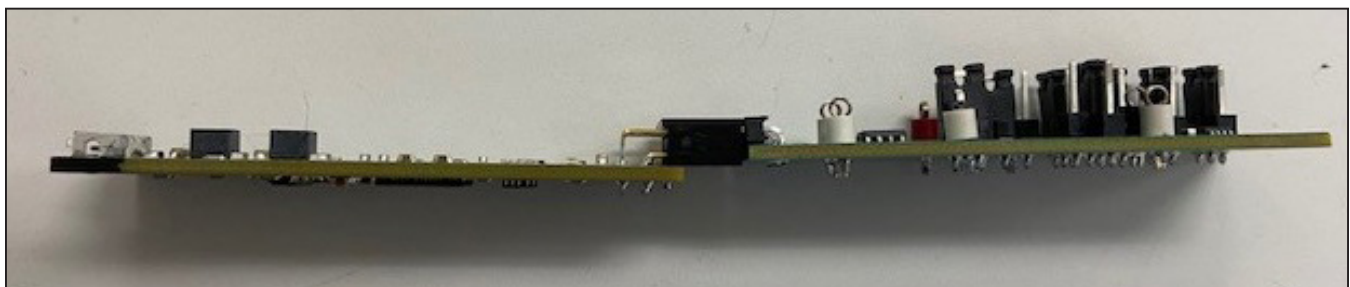

Figure 1. MAX31826 Side View
- 2) Align the X2 connector (top row) of the USB2PMB2 with the J1 connector of the MAX31826 EV kit. Figure 1 shows the side view of how the two boards are connected. The USB2PMB2 is on the right and the MAX31826 EV kit is on the left.